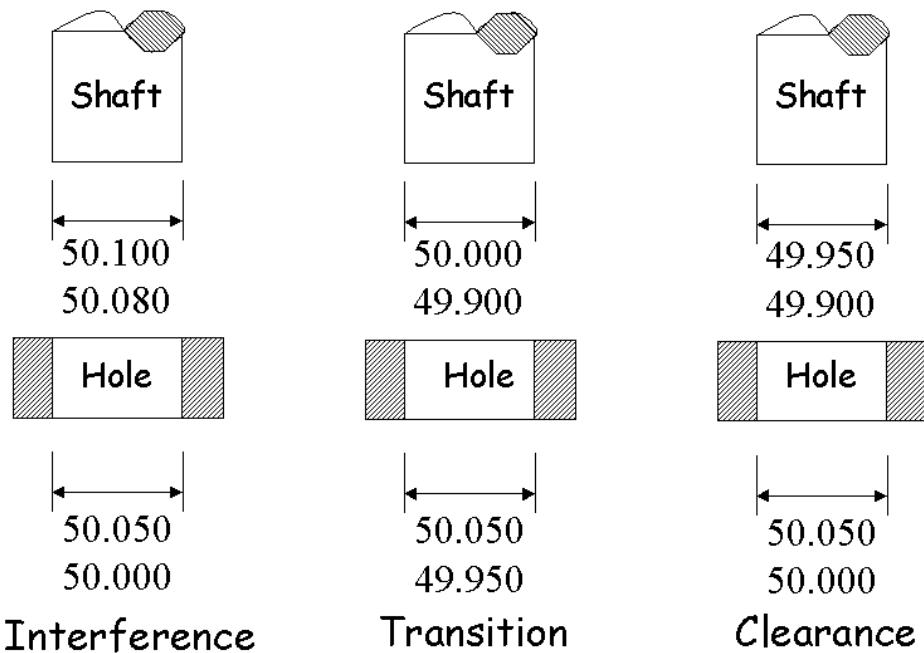

Figure Q6[a]
- Q6.** Figure Q6[a] shows three different level of fit between the hole and the shaft.